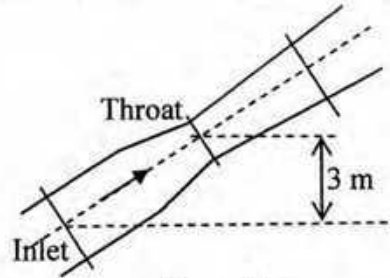

Figure 7
- d. The inlet and the throat diameter of a venturimeter shown in Figure 7 are 12 cm and 8 cm, respectively. Calculate the pressure difference between inlet and the throat. The velocity of water in the pipe is 4 m/s. Ignore losses. 8